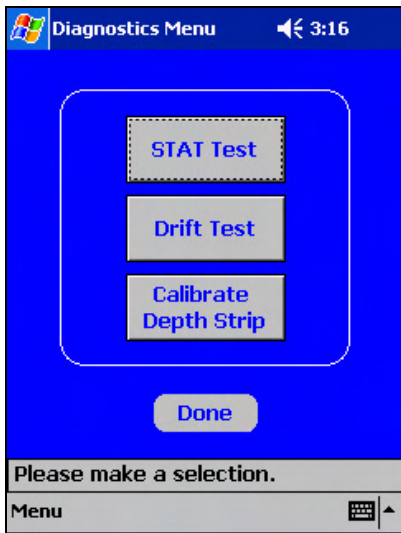

Figure 21. Diagnostics Menu
- A.8 From the **Gauge Tools** menu, press the **<Diagnostics>** button. The **Diagnostics Menu** shown in Figure 21 is displayed.